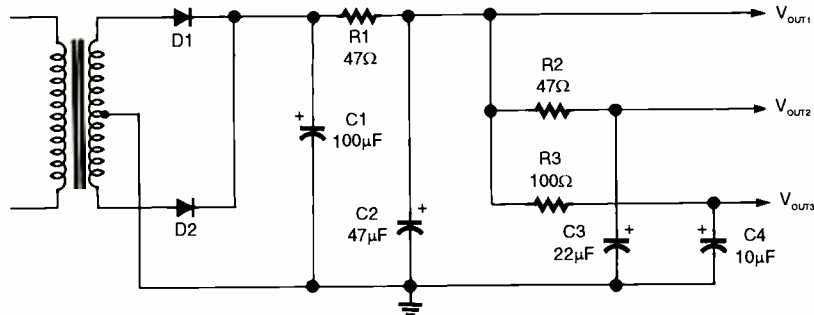

Fig. 2. Operating as a low-pass filter, RC networks are commonly used for power supply decoupling and filtering in audio amplifiers and test instruments.
(1) Actually, if you look at the output of a 3-phase rectifier, you'll find that it is a healthy combination of both direct current and ripple. In fact, its output without filtering is much like the output of the more commonly known full-wave power supply with poor filtering. The three-phase rectifier is more common than you might think, because you'll find one in most automotive alternators.
(2) Yes, that's exactly what a filter capacitor does when looking at it from a charge/discharge perspective. You can also look at it as a low-pass RC filter, especially when it is used for decoupling or in a pi-network filter, as shown in Fig. 2. There, the cut-off frequency of the filter is very low, shunting nearly all the AC to ground and passing all the DC to the load.
(3) Kalle, in my answer, I DID caution the readers that in the real world, you can't just add resistance to reactance to get impedance. Near the end of my answer, it was explained that I was doing that for the illustration just to keep the math simple so that we didn't have to get into an Electronics 101 AC course. In reality, to find the current in the circuit, we would have to take the square root of the sum of the squares of the ESR and the capacitive reactance to get the impedance. This impedance divided into the AC ripple voltage would get us the current, and that current squared times the ESR would give us the power dissipated by the ESR as heat. With 33 microfarads and 10 ohms of ESR with 5 volts rms ripple, the correct impedance would be 41.4 ohms with 146 milliwatts of power dissipated in the ESR. With the impedance erroneously figured as 50.2 ohms, the power dissipated by the ESR would be 99 milliwatts. The idea wasn't to show phase relationships, but just the fact that power is indeed dissipated in ESR and that it can be problem with older capacitors. Sometimes they just open and fade away. Other times, they develop high ESR and burst.
(4) I also disclosed that a perfect capacitor consumes no true power when I said that "any power that is apparently